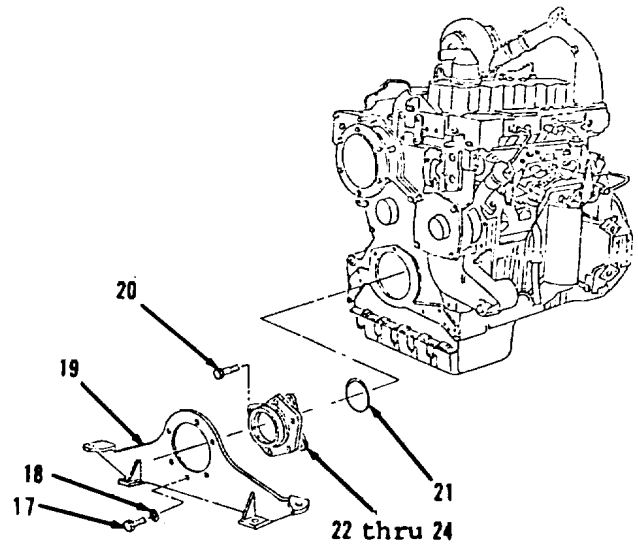

Figure 3-13.
1. Install new performed packing (21), items 22 thru 24 as an assembly and three bolts (20, Figure 3-13).
2. Install support (19), six washers (18) and bolts (17).